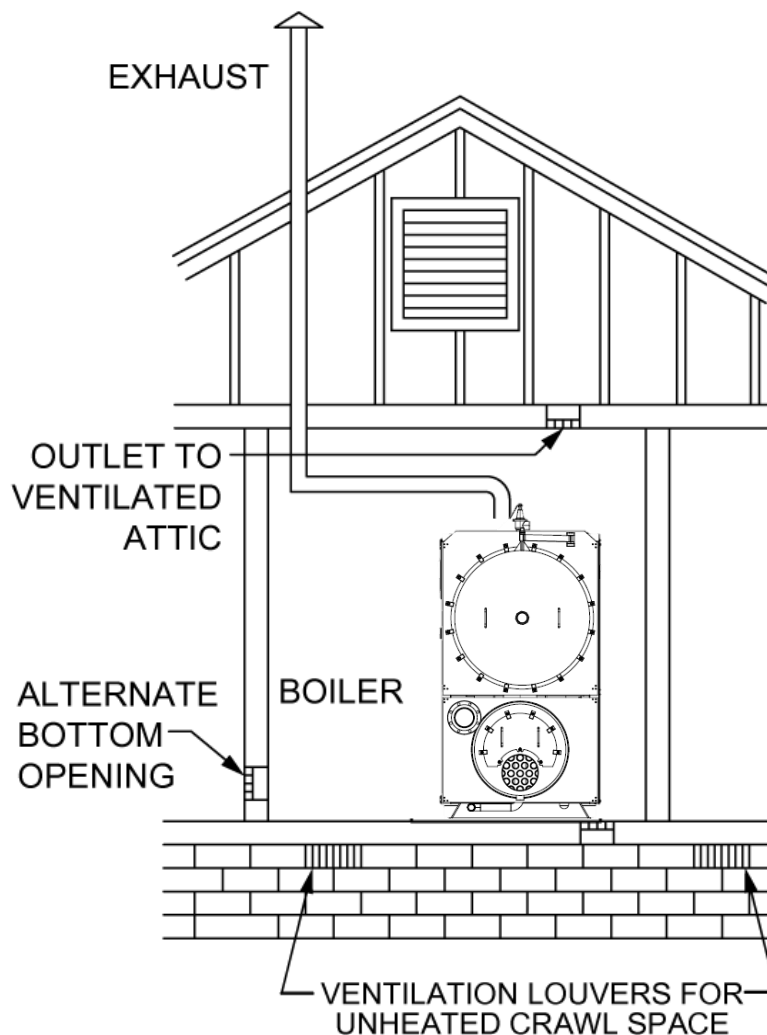

Figure 3: All Combustion Air From Outdoors - Inlet Air From Ventilated Crawl Space and Outlet Air to Ventilated Attic
- When communicating directly with the outdoors or to the outdoors through vertical ducts, each opening shall have a minimum free area of 1 inch² per 4,000 BTU/hr (550 mm²/kW) of total input rating of all appliances in the space (see Figures 3 and 4).